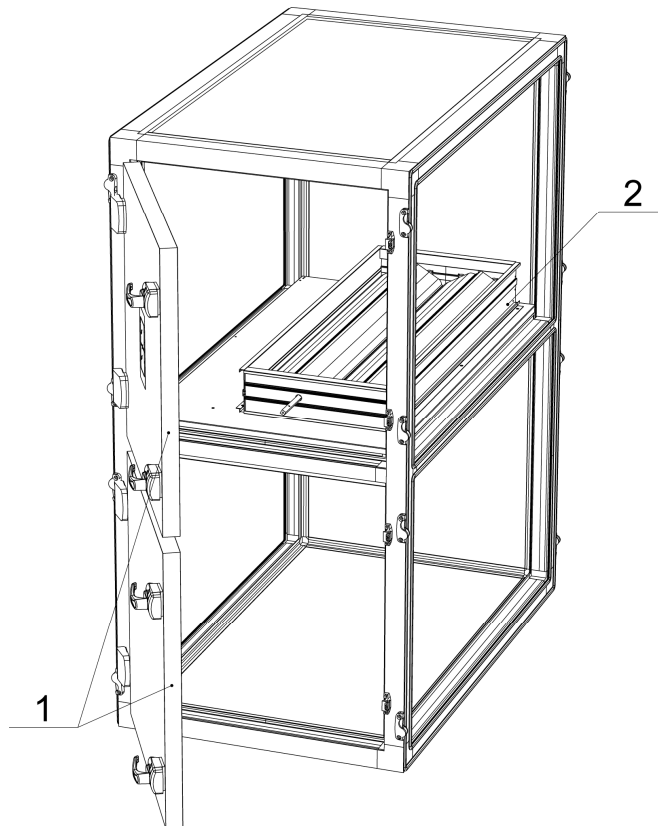

Figure 6.7.4 - Two stage mixing section with one damper inside.
4. Two stage mixing section with only one middle damper inside (double deck (Figure 6.7.4) or side by side).